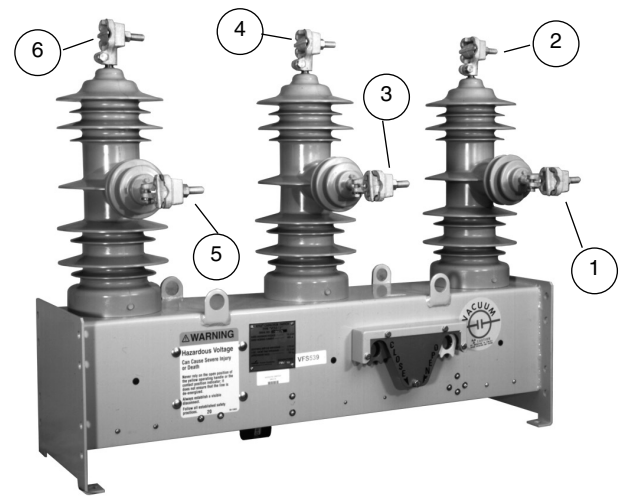

Figure 10.
Refer to Figure 10 for terminal identification of the Type TVS Sectionalizer.
By alternately applying and removing power to the control pins 2 and 3 (Figure 10), the control can be sequenced through its operations as described in the *Testing Operation* section of this manual.
3. Connect terminals 2, 4, and 6 (see Figure 10) together.
3. Connect and ground terminals 1, 3, and 5 (see Figure 10).